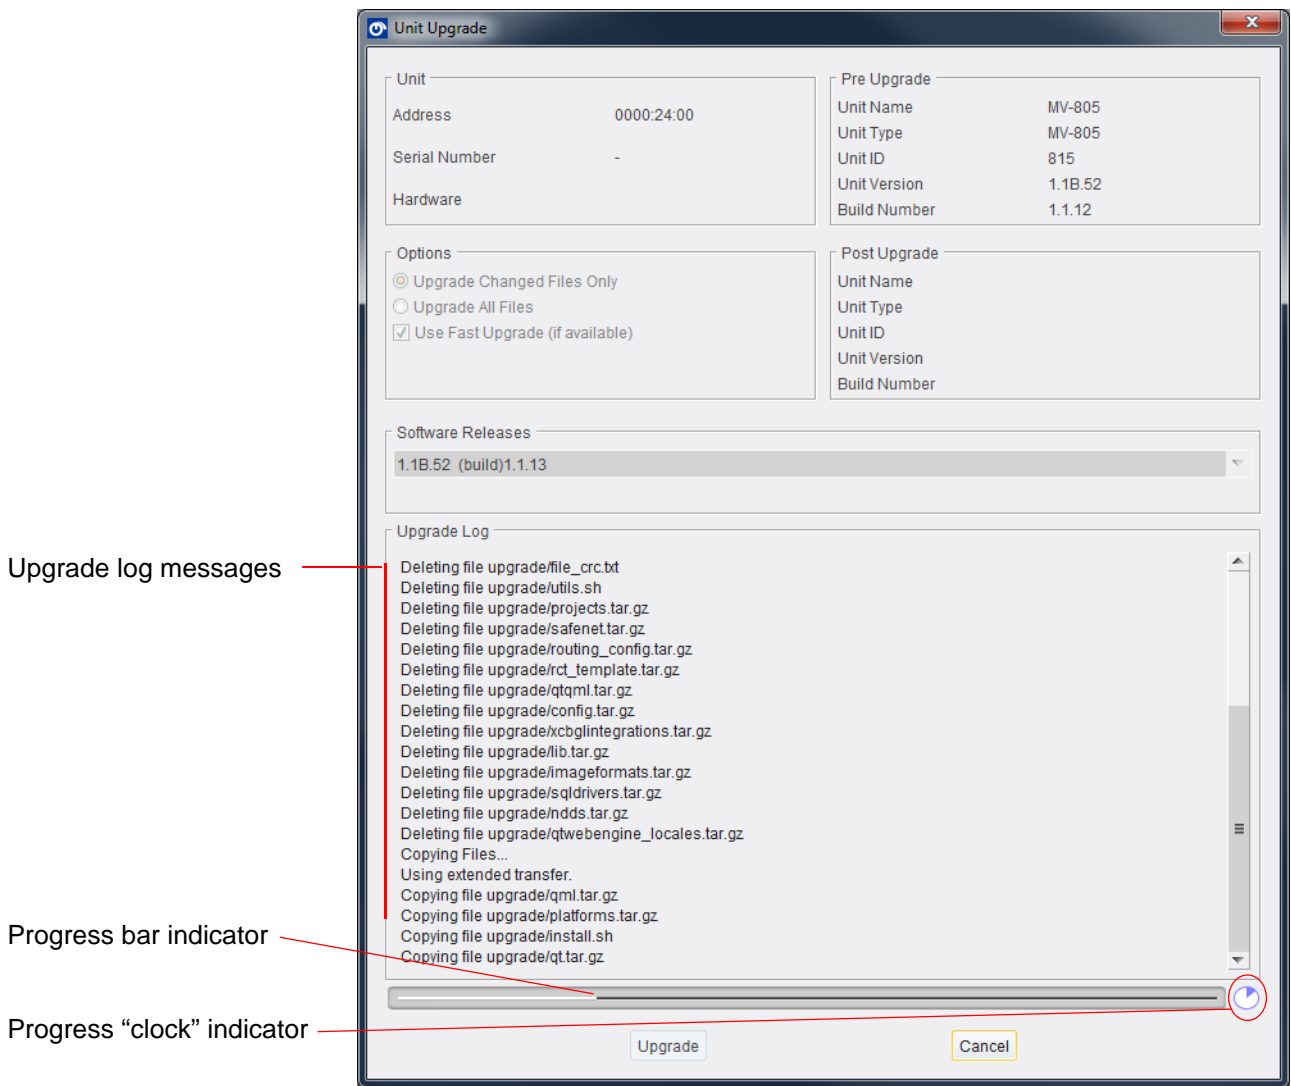

Figure 109 Software Upgrade Progresses
- 11. Software upgrade progress is shown at the bottom of the dialog and upgrade log messages appear in the Upgrade Log pane. See Figure 109.